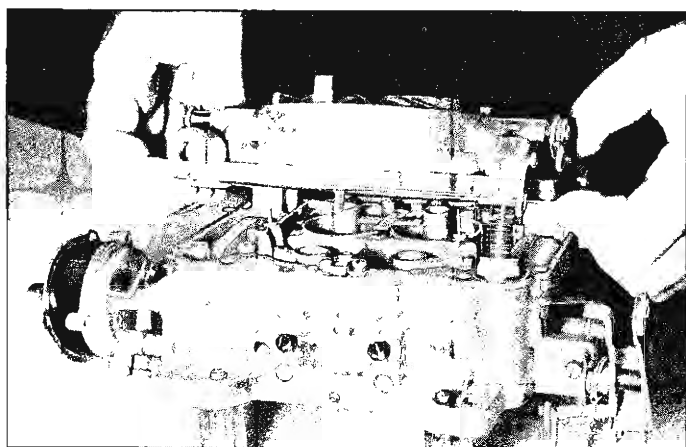

Fig. 14—Removing Bowl Cover
5. Remove fuel inlet fitting, gasket and strainer. Remove bowl cover screws and carefully lift cover from Body Section (fig. 14) to avoid damaging floats or pump plunger.